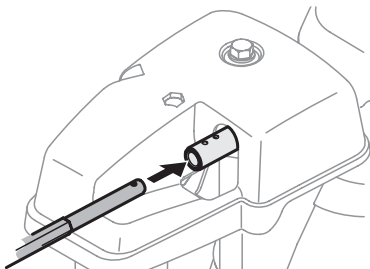

Figure 2-28
2. Insert chute control rod into chute control head. Push rod as far into chute control head as possible, keeping holes in rod pointing upward. See Figure 2-28.